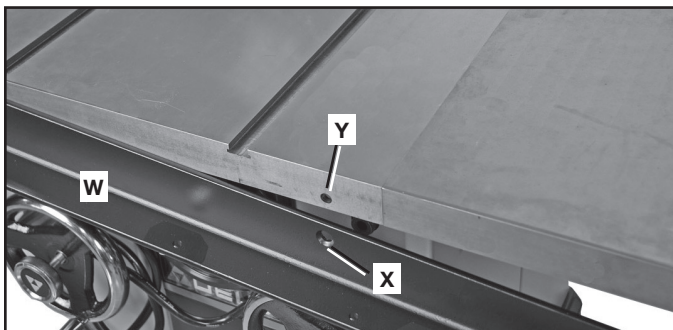

FIG. 11
1. Assemble front rail (W) Fig. 11 to the front edge of the saw table using the two 5/16-18 x 1" (25 mm) flat head hex socket cap screws and 5/16-18 serrated flange nuts.
2. Screws are inserted through the two larger countersunk holes (one shown at (X) Fig. 11) in the front rail and into the two holes (Y) in the front of the saw table.